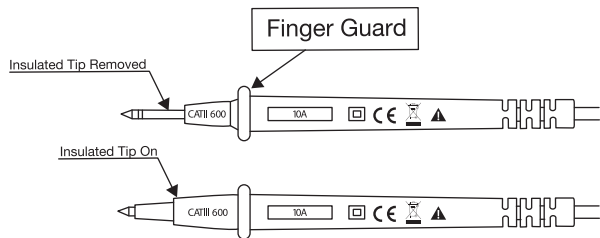

Figure 1
4. Refer to Figure 1 for removal of insulated tips.